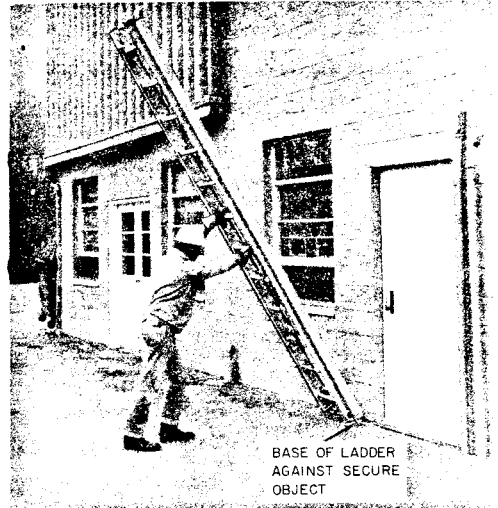

Fig. 44—One Person Raising Ladder
9.18 The one-person method of raising an extension ladder, 28 feet or less, to a wall or building is illustrated in Fig. 44 through 46.